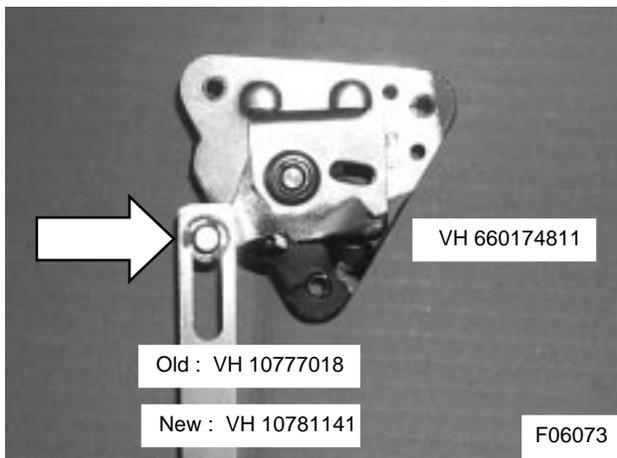

Figure 5: Emergency handle cam assembly and pull rod
- 6) Undo and remove the three flat head Allen screws securing emergency handle cam assembly VH 660174811 (see Figure 5) to the door frame.
- 8) Remove the snap ring securing emergency handle pull rod VH 10777018 to the cam assembly (see Figure 5). Discard the pull rod and the snap ring.
- 7) Slip the slotted part of new emergency handle pull rod VH 10781141 over the pivot pin of the emergency handle cam assembly and secure with the snap ring (see Figure 5).